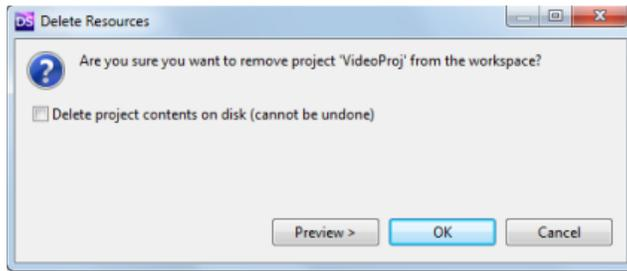

FIG. 28 Delete Resources dialog
1. With a Driver Design project folder selected in the Project Explorer, right-click and select **Delete** from the context menu. This opens the *Delete Resources* dialog (FIG. 28):